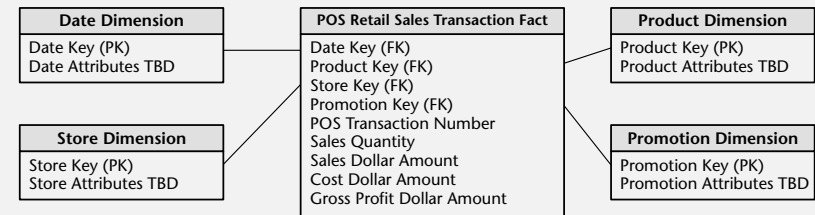

Figure 13: Measured facts in the retail sales schema
- The current fact table is shown in Figure 13.